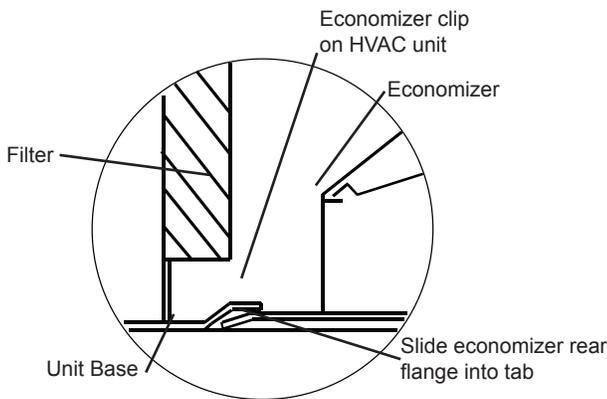
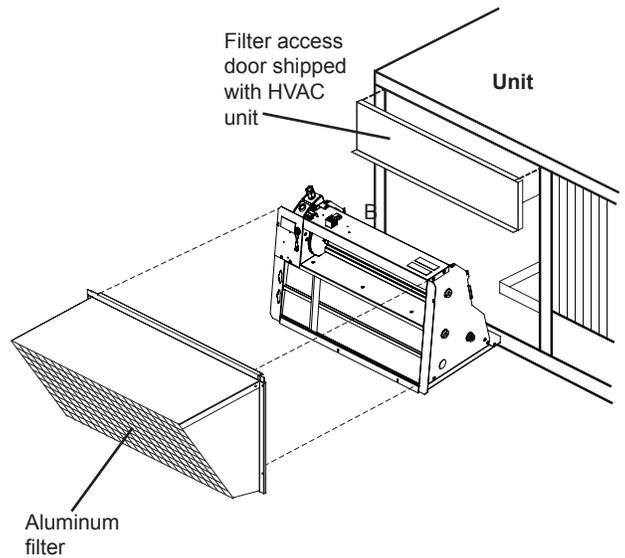

Fig. 4 - Rear Flange Detail (ECD-SRT12DR and ECD-SRT34DR)
Fig. 5 - Economizer Installed in HVAC Unit (ECD-SRT12DR Shown)
- Slide economizer into return air chamber, being sure not to pinch harness (Fig. 5). On ECD-SRT12DR and ECD-SRT34DR the rear flange of economizer slides under tab on duct flanges. (See Fig. 4.) Secure economizer in place through mating holes.
Install rain hoods per (Fig. 5). Line up pre-punched holes in hood with holes in HVAC unit and install screws. Install aluminum filter in hood. Install HVAC unit filter access door over rain hood.